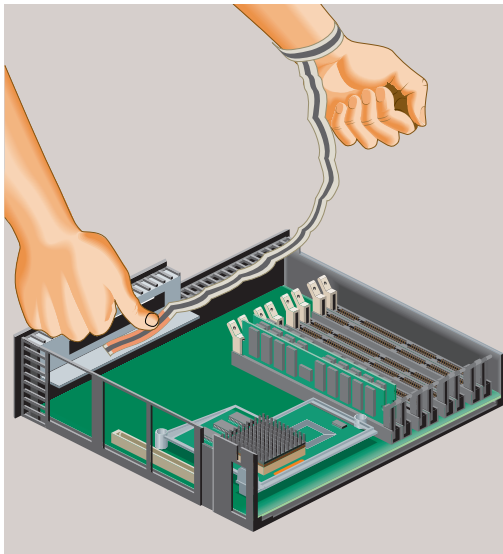

Figure 4-9 Attaching the Wrist Strap
4. Before touching any of the components, attach the wrist strap to your wrist and to a metal part of the chassis (Figure 4-9).